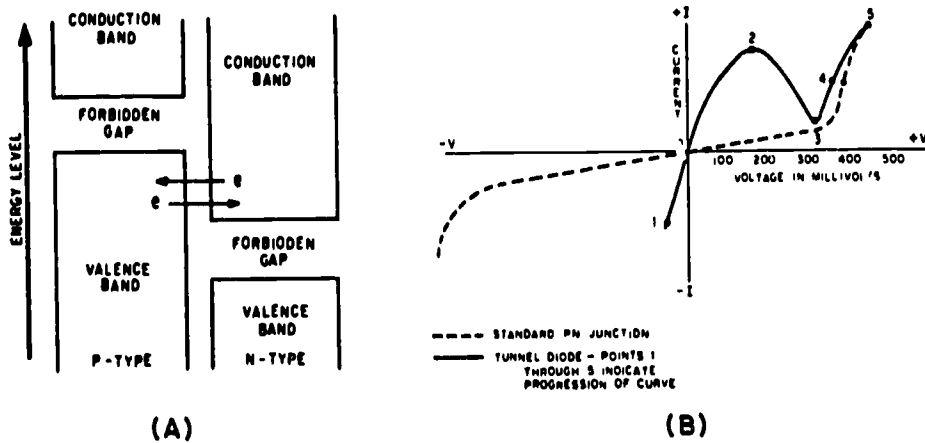

Fig 3-6. Tunnel diode energy diagram with no bias.
Figure 3-6 shows the equilibrium energy level diagram of a tunnel diode with no bias applied. Note in view (A) that the valence band of the P-material overlaps the conduction band of the N-material. The majority electrons and holes are at the same energy level in the equilibrium state. If there is any movement of current carriers across the depletion region due to thermal energy, the net current flow will be zero because equal numbers of current carriers flow in opposite directions. The zero net current flow is marked by an "0" on the current-voltage curve illustrated in view (B).